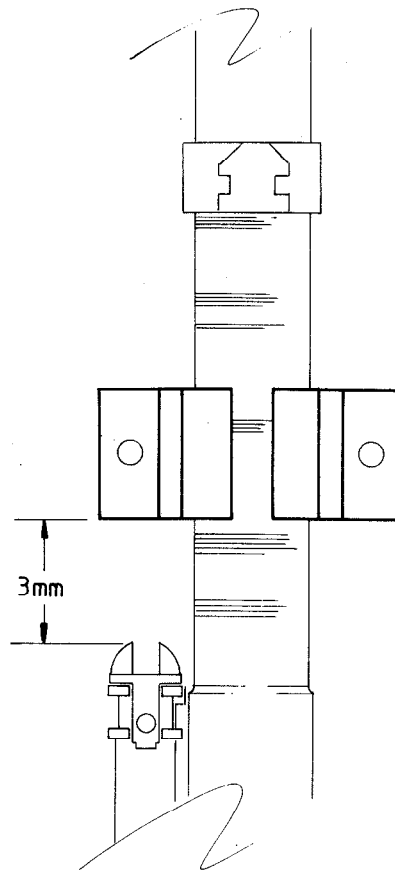

FIG 5 - GAS PLUG CLEARANCE
14. Secure the AustSteyr rifle clip to the new retaining bracket by using the machine screws and nuts item 3 and 4 Table 2.
16. After the AustSteyr butt box and clips are installed ensure a clearance of approx 3mm exists between the gas plug of the rifle and the plastic rifle clip as shown in Figure 5.